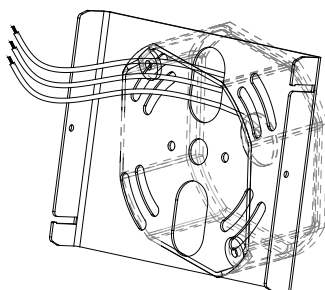

Figure 2
2. Pierce the wire from the bracket hole, fix the bracket on the junction box with screws. (Figure 2)